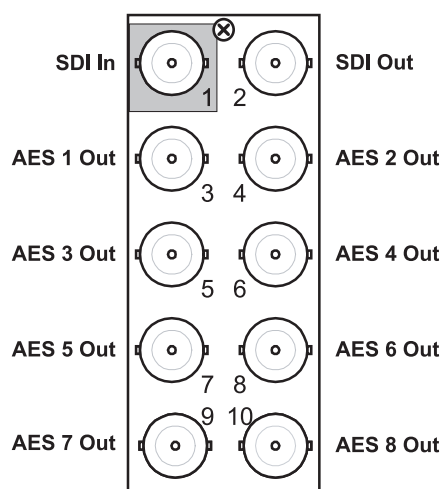

Figure 2.2 Cable Connections for the DMX-8259-A
- **8310AR-030** Rear Module (R1A-8259) — Each card occupies one slot and provides one SDI input, one SDI output, and eight AES unbalanced outputs at 75ohm. (**Figure 2.2**).
- **8320AR-030** Full Rear Module (R2A-8259) — Each card occupies two slots and provides one SDI input, one SDI output, and eight AES unbalanced outputs at 75ohm. (**Figure 2.2**)